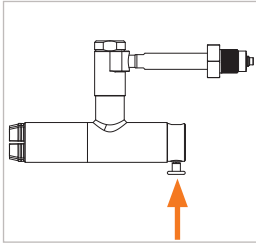

Figure 6
- ▶ Press the valve button (Pos. 4) (Figure 6). The clamping jaws open.